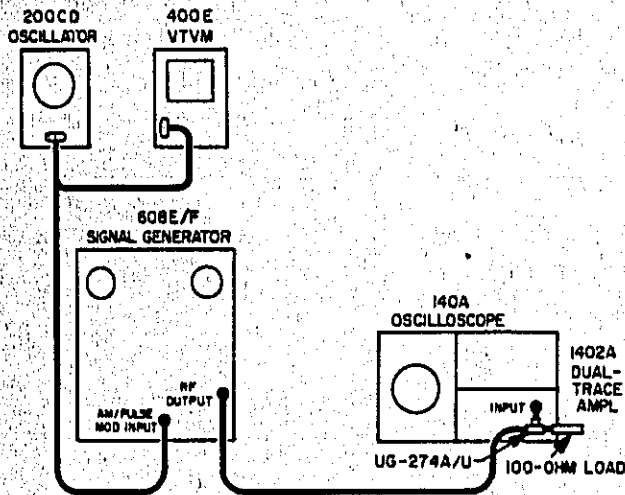

Figure 5-7. External Sine-Wave Modulation and Modulation Meter Test Setup
- Connect signal generator in test setup illustrated in Figure 5-7.